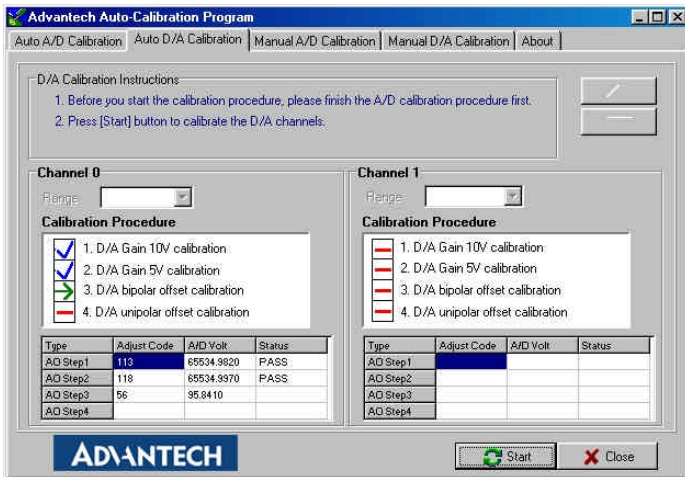

Fig. 5-10: Calibrating D/A Channel 0
Step 10: D/A channel 0 calibration is enabled (Fig. 5-10)